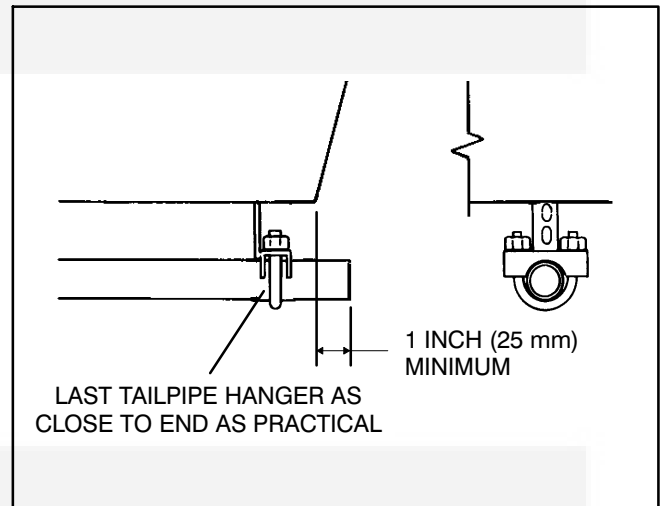

FIGURE 6. TERMINATING THE EXHAUST TAILPIPE
4. Do not terminate the tailpipe underneath the vehicle. Extend it a minimum of 1 inch (25 mm) beyond the perimeter of the vehicle (Figure 6). *Support the end of the tailpipe such that it cannot be pushed inward and up under the skirt of the vehicle.*